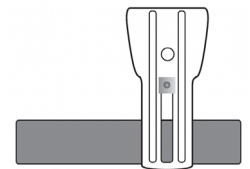
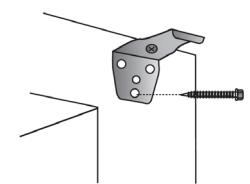

Figure 1
Figure 2
**2:** Position one bracket about 1" – 2" in from each end of the track. [Figure 1] Mark screw holes with a pencil and drill pilot holes. [Figure 2] Use appropriate wall anchors. Position the other brackets equally across the width of the door. Make sure all brackets are straight and level.